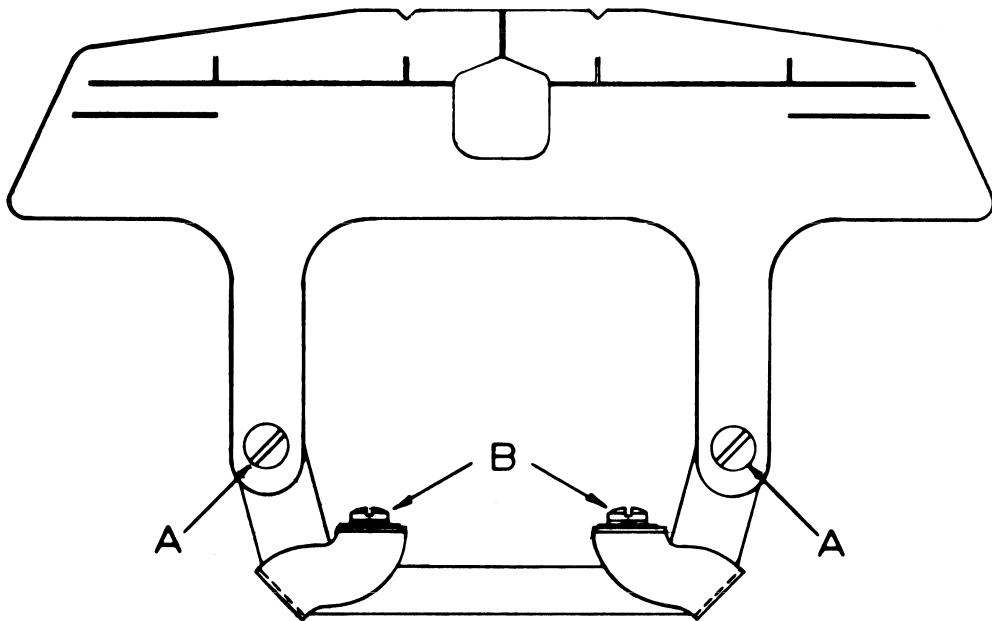

FIGURE 7-14
The reference marks inscribed on the card guide should appear as in Figure 7-14. Registration should be re-checked following adjustment of the card guide depth, or any time that it is sufficiently imperfect to inconvenience the operator.
- (1) First adjust the vertical alignment, by disabling the CARR test switch on the #1 printed circuits board, and moving the carriage to the center of the line.
- (2) Loosen the two retaining screws (A) shown in Figure 7-14.
- (3) Position the card guide to obtain the best alignment of the horizontal registration marks and the printed line, as shown in the diagram.
- (4) Secure the card guide by re-tightening the two retaining screws.
- (6) If the vertical registration mark does not bisect the printed character, loosen the two retaining screws (B) shown in Figure 7-14.
- (7) Position the card guide to obtain the best adjustment and secure it in place by re-tightening the two retaining screws.
- (8) Again check the vertical alignment and re-adjust as necessary. This completes the registration adjustment.